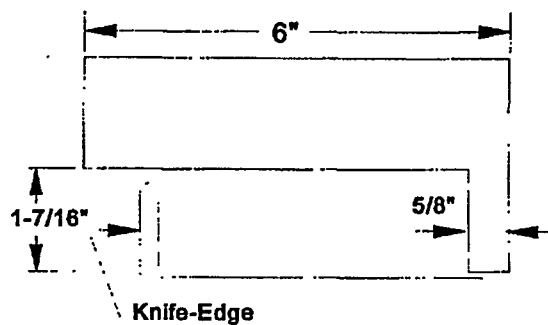

Figure 600-2.37. Gauge for Measuring
- c. Inspect the entire knife-edge for proper height. A block of aluminum cut to the specifications shown in figure 600-2.37 is an effective gauge. If the knife-edge is more than 1/8 inch too high or too short, it must be repaired in accordance with step d.